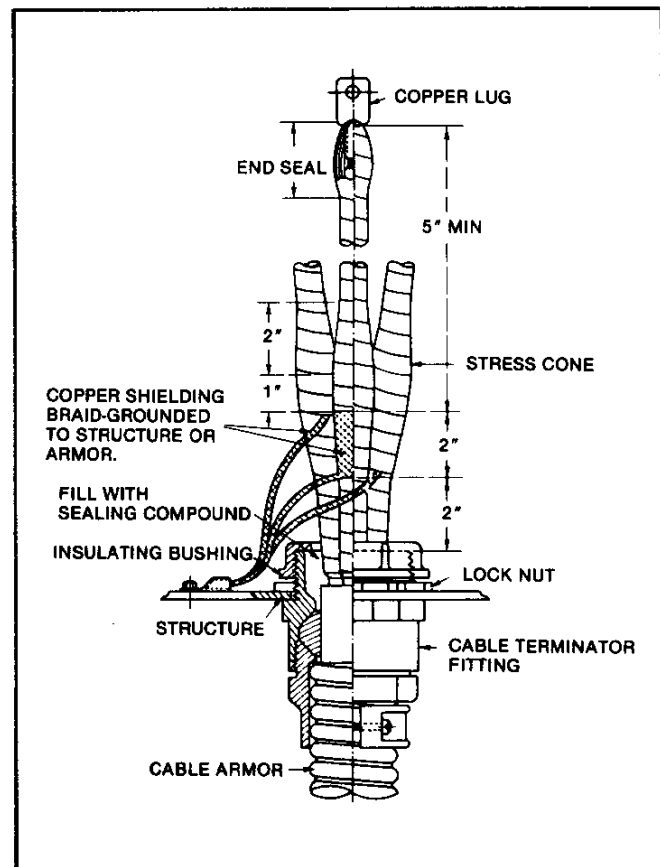

Figure 43. Termination of interlocked-armor, shielded, 5000-volt cable.
Interlocked-armor, rubber-covered, and varnished-cambric insulated cables are sometimes shielded at ratings of 5 kV and below. If they should be, proceed to terminate as detailed for other types of shielded cables. Refer to Fig. 43.
3. Proceed to build stress cones as prescribed by the cable manufacturer. Refer to Fig. 43 and 44 for details.